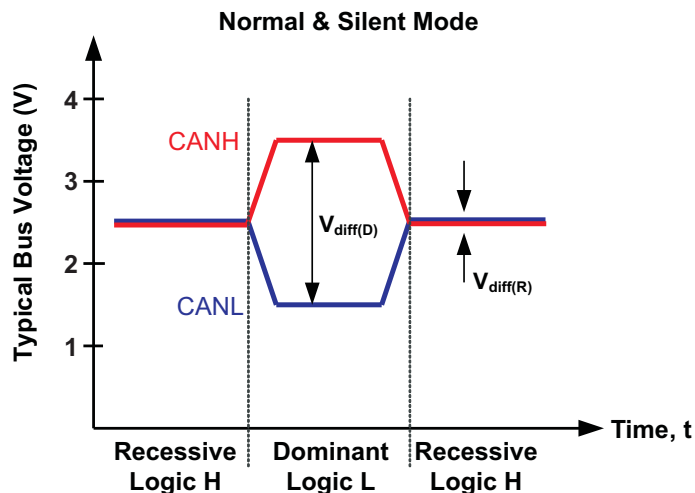
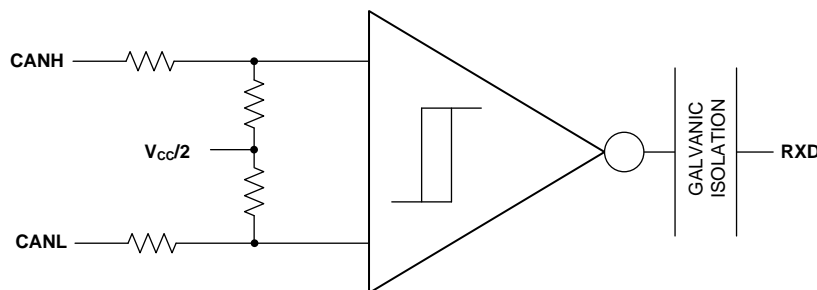

Figure 1. Bus States (Physical Bit Representation)
Figure 2. Simplified Recessive Common Mode Bias and Receiver
The CAN bus has two states during operation: *dominant* and *recessive*. A dominant bus state, equivalent to logic low, is when the bus is driven differentially by a driver. A recessive bus state is when the bus is biased to a common mode of $V_{CC} / 2$ via the high-resistance internal input resistors of the receiver, equivalent to a logic high. The host microprocessor of the CAN node will use the TXD pin to drive the bus and will receive data from the bus on the RXD pin. See Figure 1 and Figure 2.
(1) H = high level, L = low level, Z = common mode (recessive) bias to $V_{CC} / 2$. See Figure 1 and Figure 2 for bus state and common mode bias information.